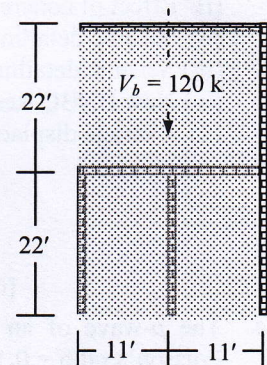

Fig. 4
9. For the floor plan of a 3-storied brick masonry building in Sylhet (with 11'-high stories) shown in Fig. 4